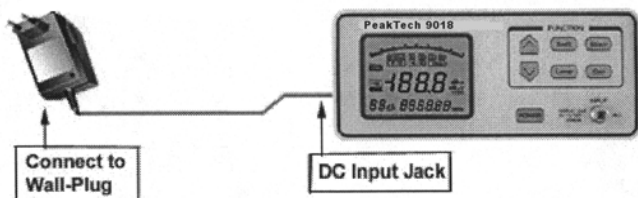

Fig. 4-1 Charging by AC adaptor
6.2.1. Charging by AC adaptor (Figure 4-1)